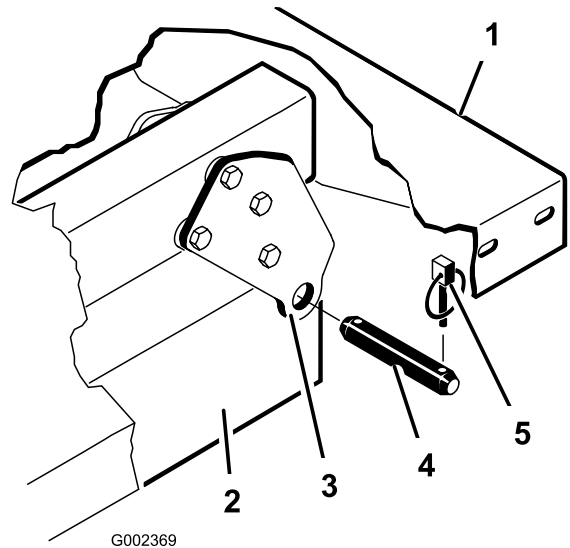

Figure 5
3. Remove clevis pins securing cylinder rod ends to bed mounting plates by pushing pins towards inside (Figure 5).
4. Remove lynch pins and clevis pins securing pivot brackets to frame channels (Figure 5).
Note: Assure rear pivot plates are bolted to the bed frame/channel so that lower end angles to the rear (Figure 5).
2. Carefully set bed onto vehicle frame aligning rear bed pivot plate holes with holes in rear frame channel and install (2) clevis pins and lynch pins (Figure 5).
3. With bed lowered, secure each cylinder rod end, to appropriate slots in bed mounting plates with clevis pin and lynch pin. Insert clevis pin from outside of bed with lynch pin toward outside (Figure 5). Rear slots are for full bed installation and front slots are for 2/3 bed installation.